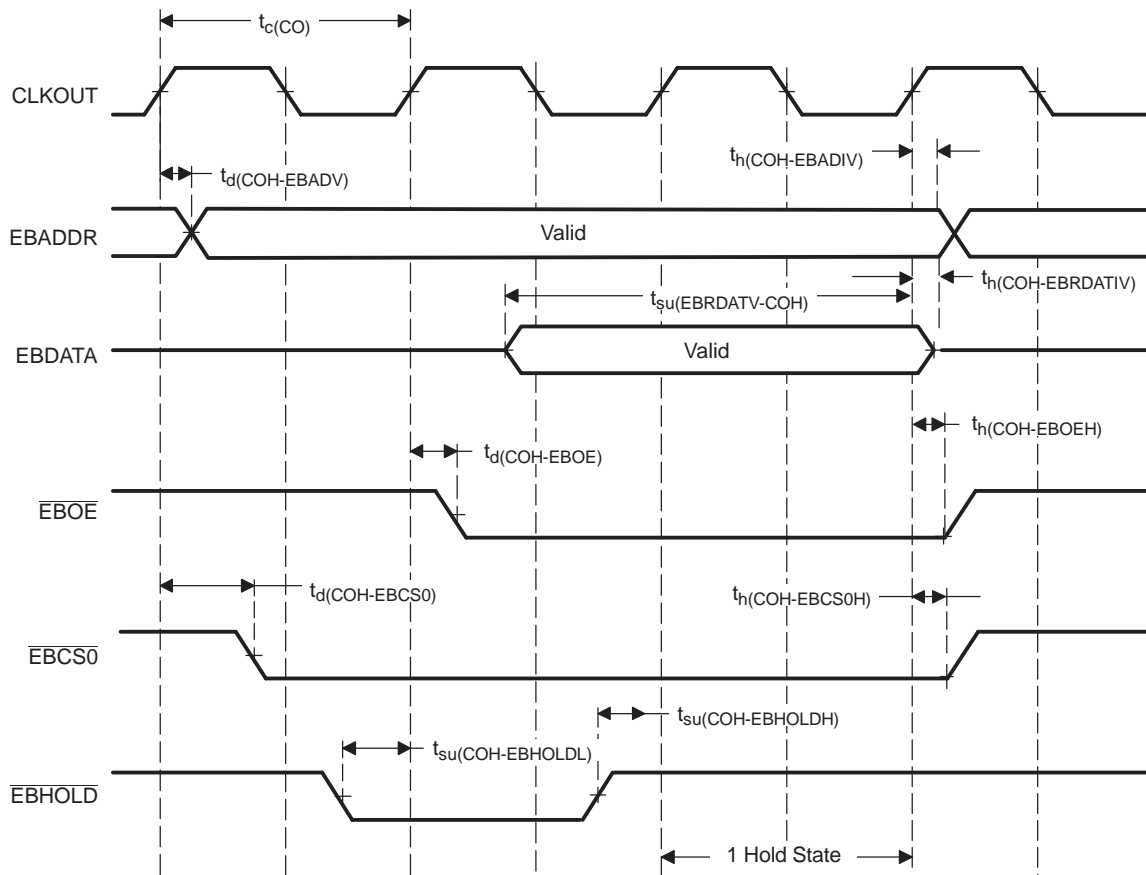
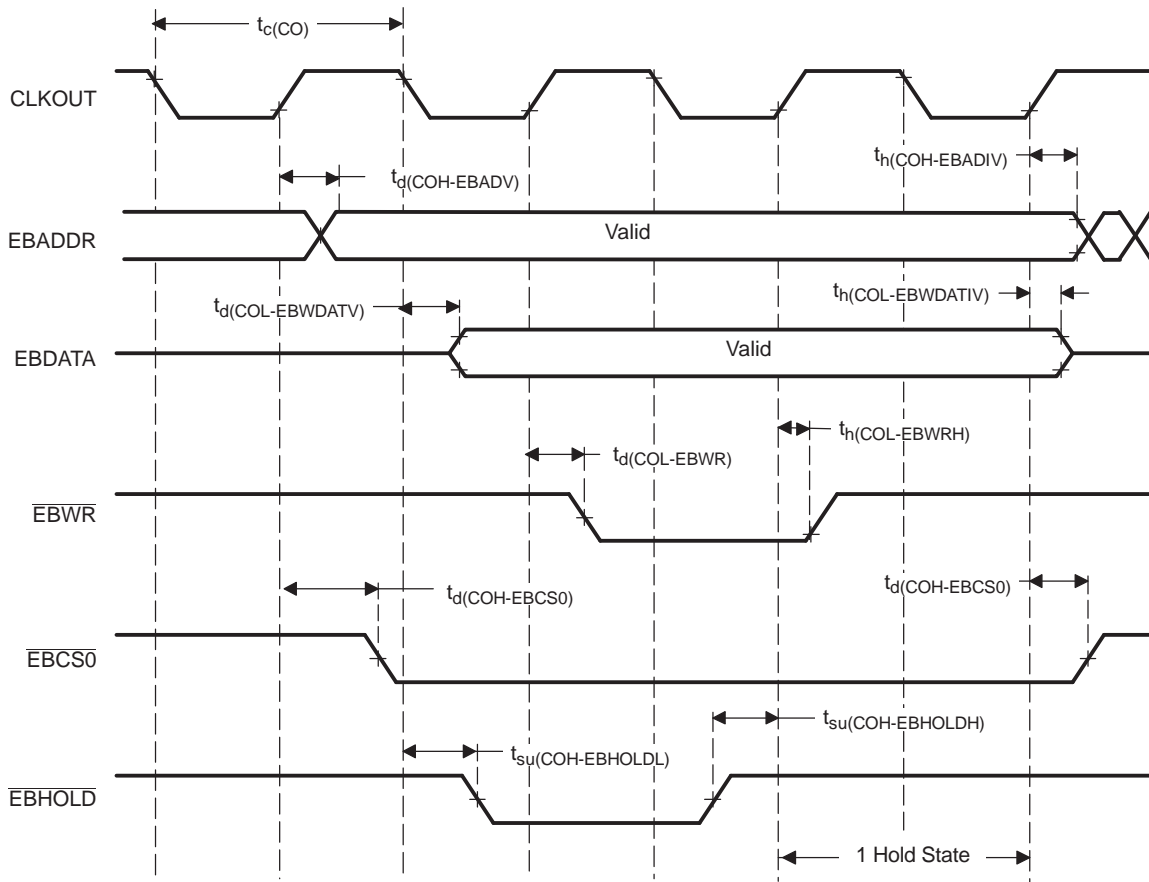

Figure 23. Expansion Memory Signal Timing - Reads
Figure 24. Expansion Memory Signal Timing - Writes
–55°C ≤ T_A ≤ 220°C, 3.0 V ≤ V_{CC} ≤ 3.6 V (see Figure 23 and Figure 24)